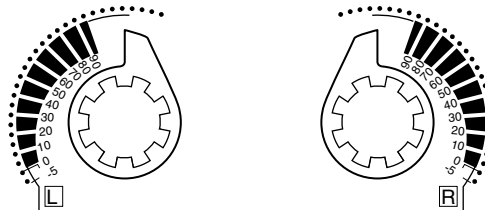

Figure-9 Installing the Position Indicator.
2. Place the position indicator onto the actuator spline in the approximate position shown in Figure-9. Fasten it with the retaining clip.